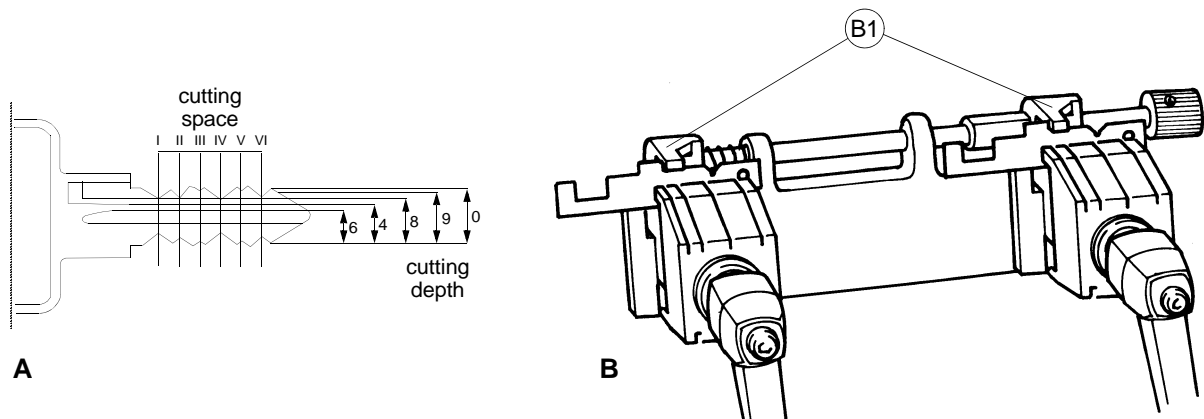

Fig. 8
Depth calibration is regulation of the cutting depth (fig.8-A).
- 2) place the adjustment plates (provided) on the clamps (fig.8-B).
- 3) check that the adjustment plates adhere properly to the clamps (fig.8-B).
- 4) turn the calibration rod towards the operator so that the gauges (B1) come into contact with the adjusting keys (fig.8-B).
- 5) raise the carriage and take up to the cutting tool (F).
- b) the key stop is resting against the calibration tabs (B1) (fig.8-B);